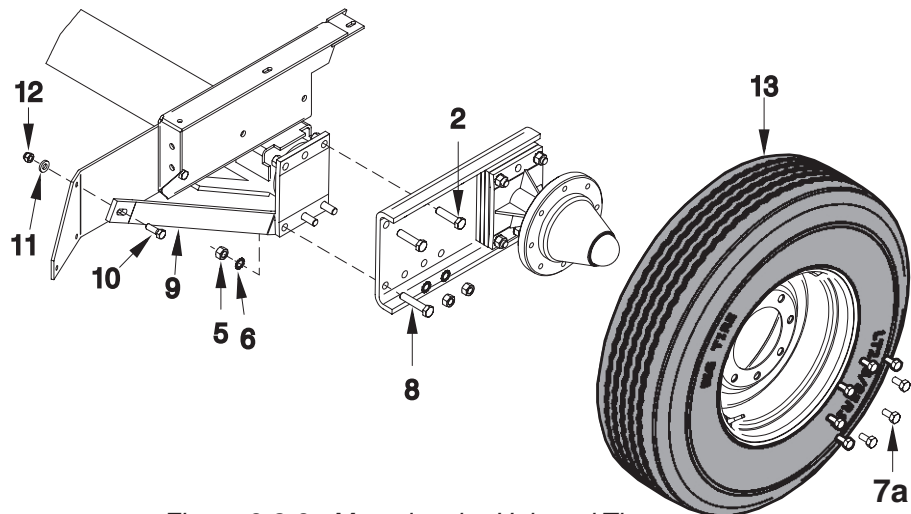

Figure 2-3-2 - Mounting the Hub and Tire
B. (See Figure 2-3-2) Place the mounting channel on the axle using (4) Item 2 Bolts. Place Item 9, RH Brace as shown. Torque all nuts and bolts as per torque chart on page 2-3-1.